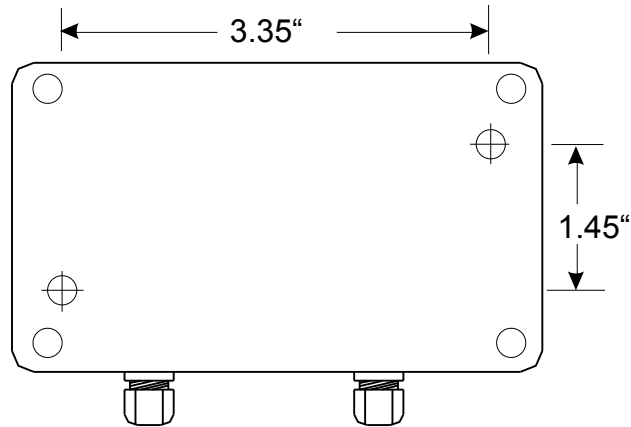

Figure 6 Junction Box Mounting Dimensions
Open the junction box enclosure and use the two holes to screw the enclosure in place (mounting screws are user supplied). See Figure 6 for dimensions. Place the junction box within 20 feet of the sensor, in an area that is protected from excessive fumes or moisture. Locate the cable entry on the bottom to minimize leakage problems.
- To check the probe, check the probe electrical connections to the terminal strip (refer to Figure 6). Make sure that the correct colors go to the correct terminals and the connections are tight. Restore power and see if the conductivity is back to normal.